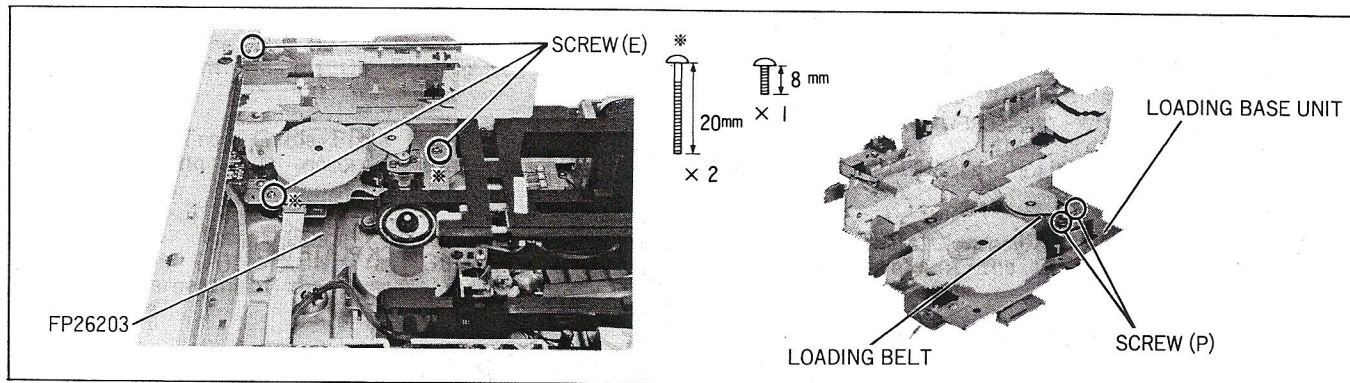

Fig. 6-5
6. Disconnect FP26203 and remove 3 screws (E). Then take out the Loading Unit as shown in Fig. 6-5.
7. Install the Loading Unit Assembly by installing 3 screws (E) and connect FP26203 as shown in Fig. 6-5.
1. The Loading Unit must first be removed when replacing the Loading Motor as shown in Fig. 6-5 (Left).
2. Remove 2 screws (P) and Loading Belt and then remove Loading Motor from bottom side of the Loading Unit as shown in Fig. 6-5 (Right).